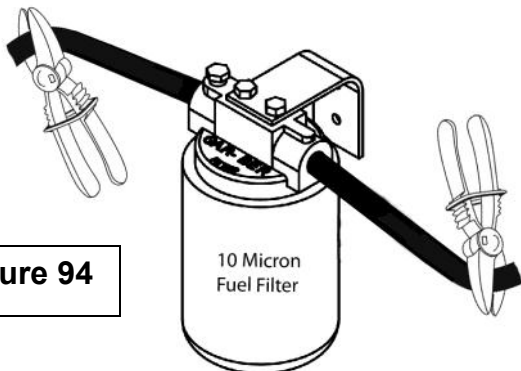

Figure 94
2. Using hose pinch off pliers, clamp off both fuel lines going to the fuel filter. Reference figure 94.